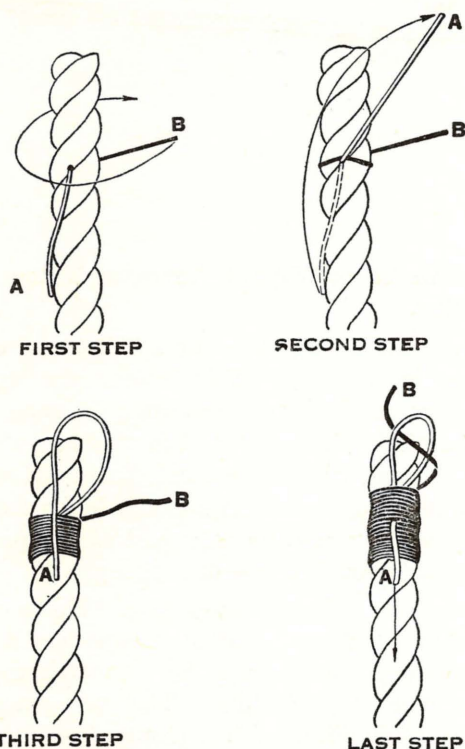

Fig. 530—Whipping the end of a rope
1. Thread the cord through the rope under one strand. Leave three or four inches on loose end, "A." (See Fig. 530.)